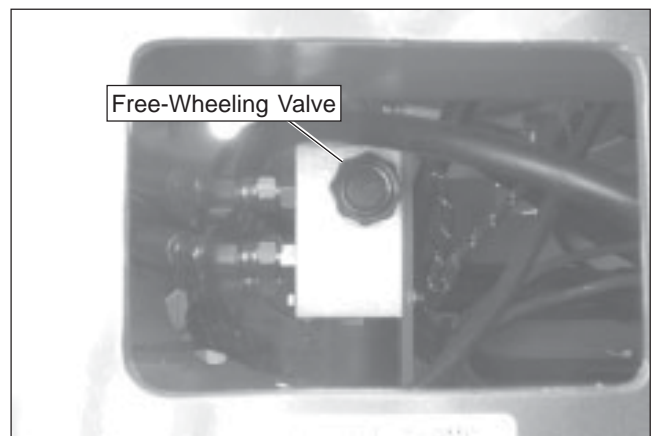

Figure 11.3 – Rear of Chassis
4. Turn the free-wheeling valve counterclockwise to the fully open position. The free-wheeling valve is located on the drive valve at the rear of the chassis (refer to Figure 11.3).